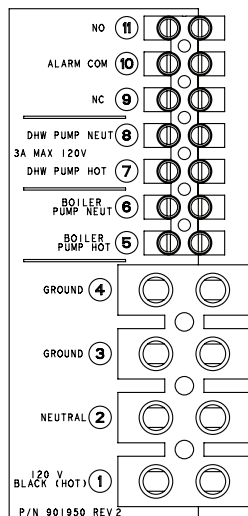

Fig. 11a: Wiring Electrical Connections
All 120 VAC field wiring connections to the XFYre heater are made inside the rear wiring box as shown in Fig. 11a. Power to the XFYre heater should be connected to terminals 1, 2, and 3 as shown in Fig. 11a. Low voltage wiring is connected to the field wiring board at the front of the unit. Sensors, Thermostat (TT)
Refer to Fig. 11a–19.